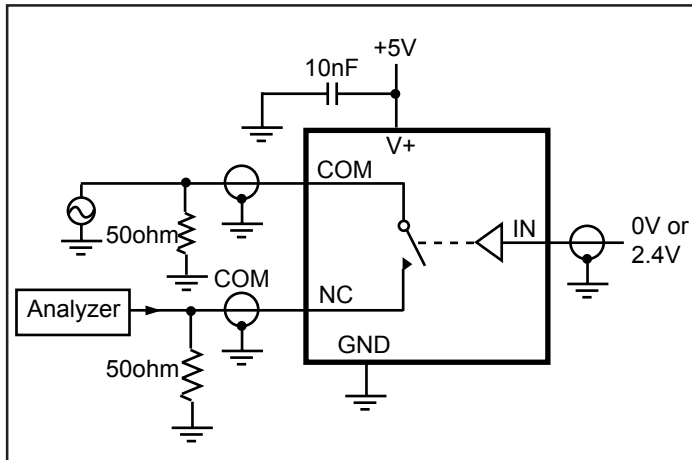

Figure 3. Off Isolation
- Off Isolation = $20\log_{10} V_B / V_A$. See Figure 3.